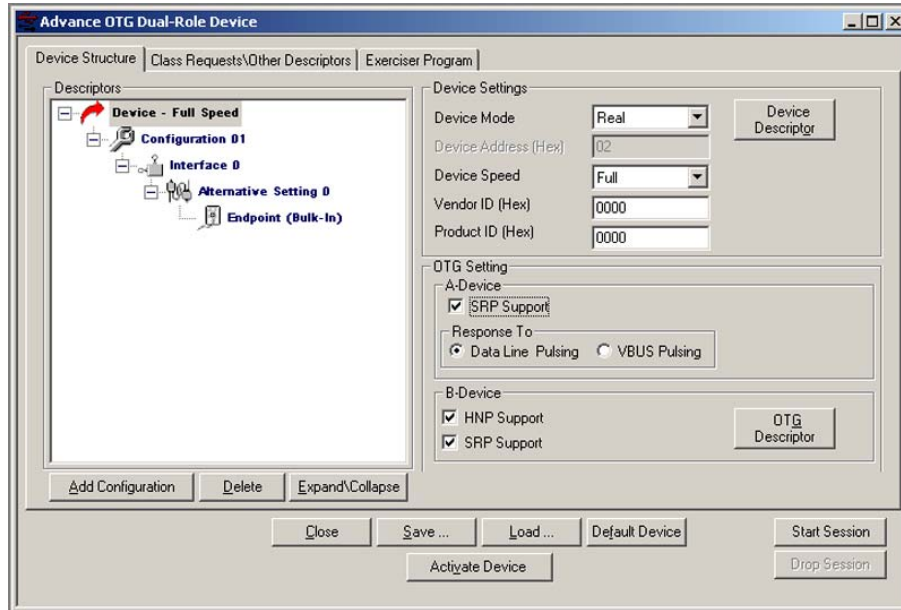

Figure 109 OTG DRD Setup Dialog
2. The OTG Exerciser speed is set in the Device Structure Dialog (See Figure 109).
The **OTG DRD Setup** dialog opens with a default hierarchy as shown in Figure 109. You can add configurations to total 3. Each configuration by default opens with one interface. You can add interfaces to total 2 per configuration. Each interface by default opens with one Alternative Setting with one endpoint. You can add Alternative Settings to total 3 for each interface, but no more than 3 total for the Device. A Device is limited to a total of 4 endpoints. You can enter descriptor values at each level of the hierarchy. In addition to support for most standard requests defined for OTG, you can configure the Device to respond with up to four arbitrary standard request data descriptors and up to seven String Descriptor strings and to acknowledge up to eight class requests.
The **OTG DRD Setup** dialog opens with a default hierarchy as shown in Figure 109. You can add configurations to total 3. Each configuration by default opens with one interface. You can add interfaces to total 2 per configuration. Each interface by default opens with one Alternative Setting with one endpoint. You can add Alternative Settings to total 3 for each interface, but no more than 3 total for the Device. A Device is limited to a total of 4 endpoints. You can enter descriptor values at each level of the hierarchy. In addition to support for most standard requests defined for OTG, the Device can be configured to respond with up to four arbitrary standard request data descriptors and up to seven String Descriptor strings and to acknowledge up to eight class requests.
- The OTG Exerciser speed is set in the Device Structure Dialog (See Figure 109).